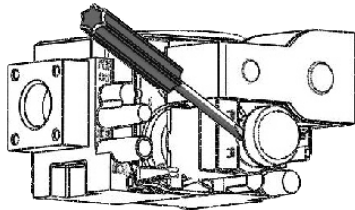

Fig 2.
2. To check control outlet pressure at burner 'Full on' and 'Low Flame' positions remove the plastic cap from the regulator adjustment location as indicated in Fig 2.